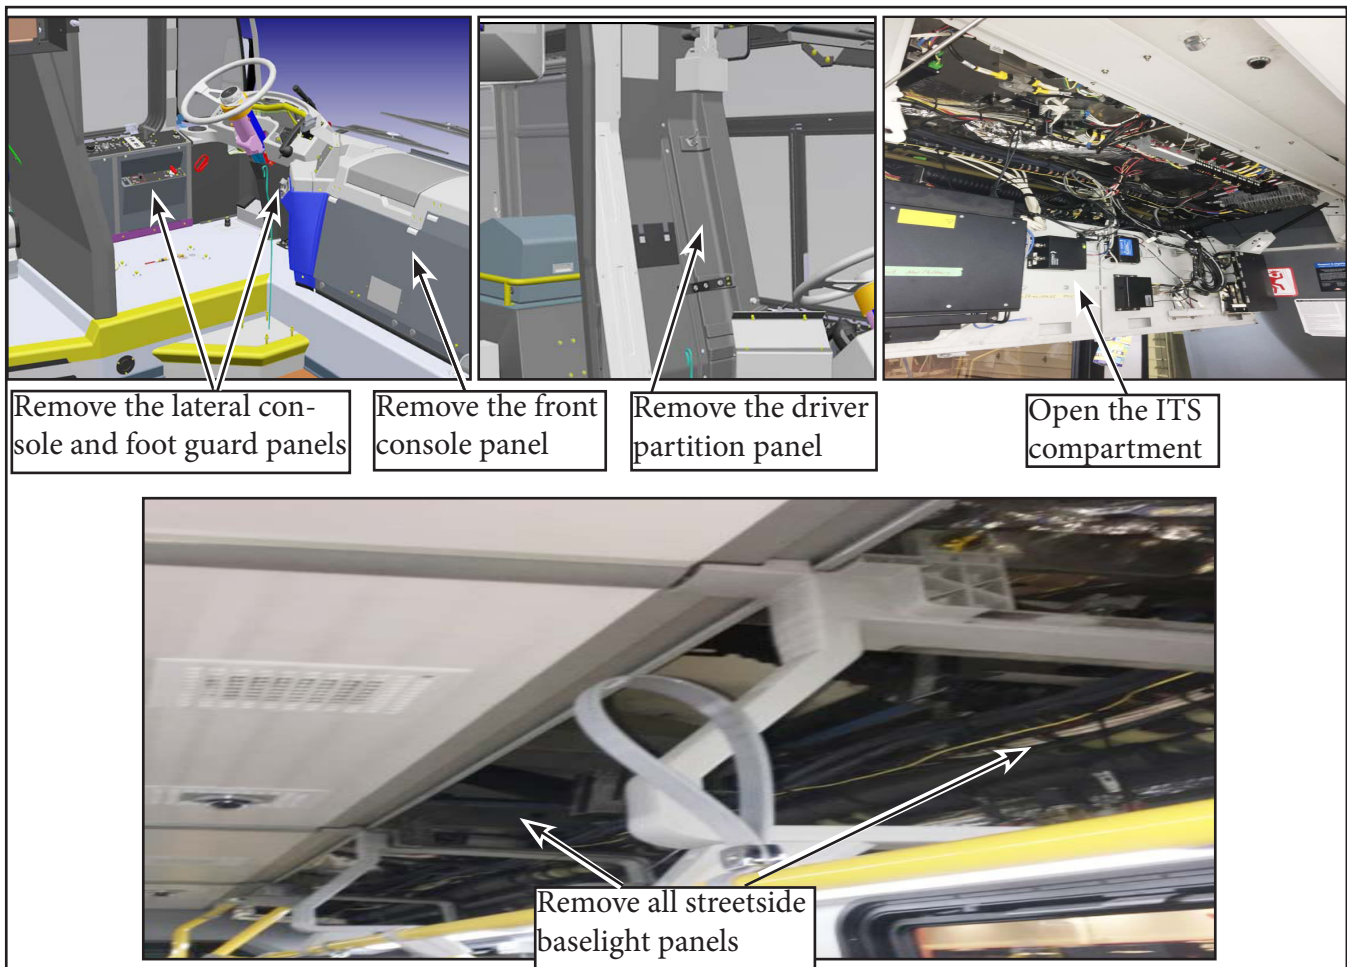

Figure 17 - Remove Panels
- 2.4. Remove the following panels for access prior to routing the front-to-back wire kit: lateral console panel, foot guard panel, front console panel, driver partition panel, and all streetside baselight panels. Open the ITS compartment (see Figure 17).